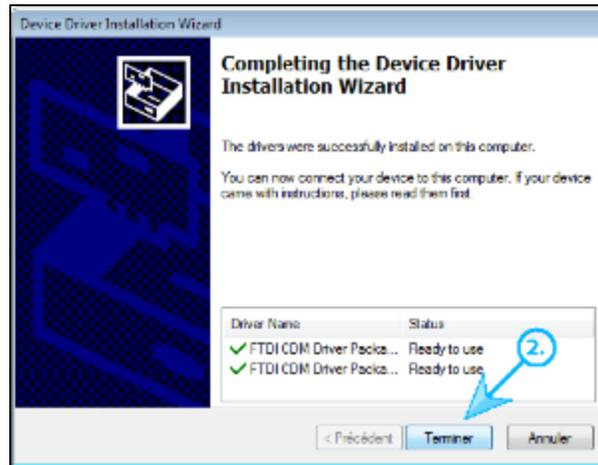

Figure 3.1.4 : Completed driver installation.
3. Select "Finish" shown in Figure 3.1.4,